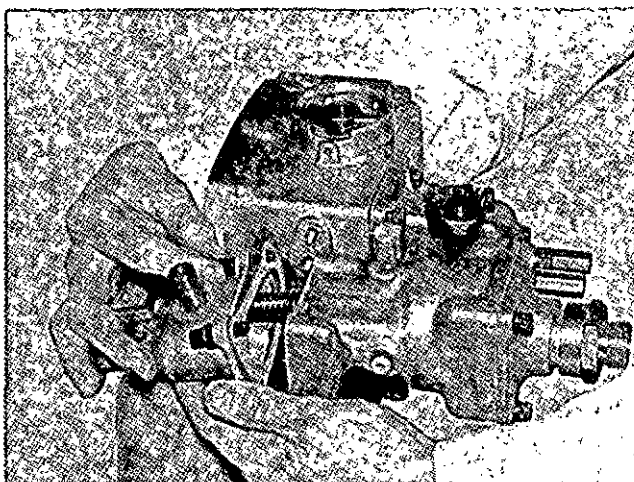

Fig. 4-17, (F553). Install the converter cover assembly.
3. Install the converter governor plunger, spring retainer and spring in the converter governor housing and cover, Fig. 4-17. Select the correct spring for fuel pump being built, Table 4-3.